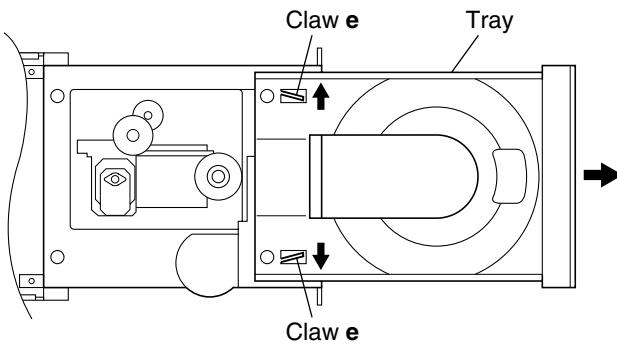

Fig.6
- 4. While opening up the claws **e** at the left and right of the tray in the directions of the arrows, remove the tray. (See Fig.6.)